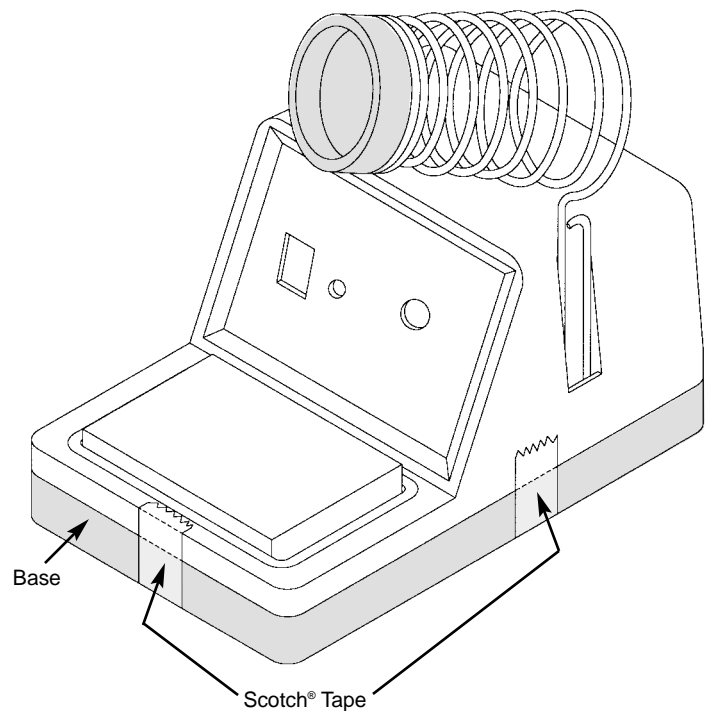

Figure 2
- 1) Assemble the metal base to the soldering station body hold it in place temporarily by taping the base to the body with Scotch® tape (see Figure 2).